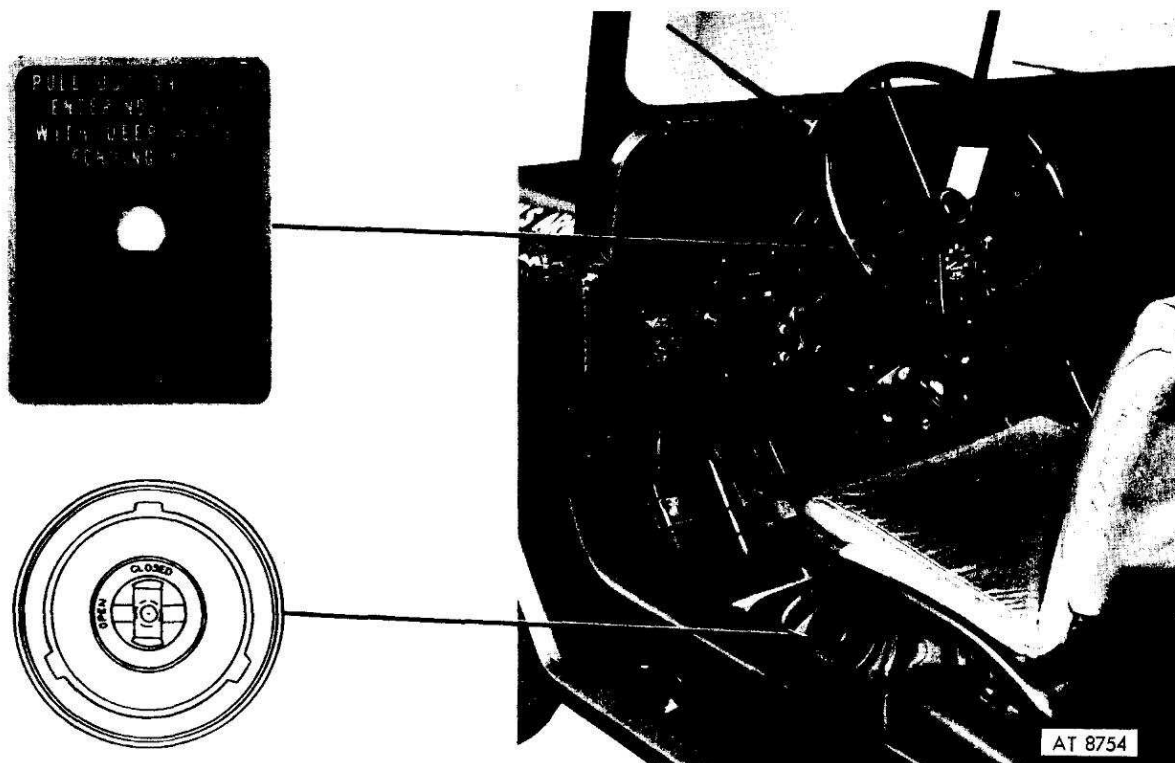
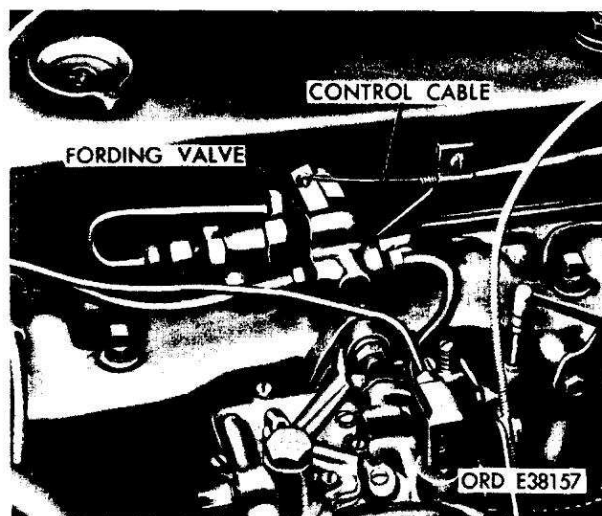

Figure 4-21. Instruction plates for deepwater fording kit.
Figure 4-22. Fording valve and cable.
b. Name, Caution, and Instruction Plates. Location and details of the plates are shown in figure 4-21.
a. Fording Valve. (Refer to fig. 4-22.) A control handle and instruction plate for the fording valve are located on the instrument panel near the choke and throttle controls (fig. 4-21). When the control is pulled out as directed, the engine, brake, hydraulic and fuel venting systems are connected through the
b. *Fuel Filler Cap Valve.* A fording setting is provided in the fuel tank cap (fig. 4-21) which is set to closed position before fording. Instructions for use of this valve are embossed on the fuel tank filler cap. The valve is set by turning the lever inside the cap to the positions marked "OPEN" or "CLOSED".